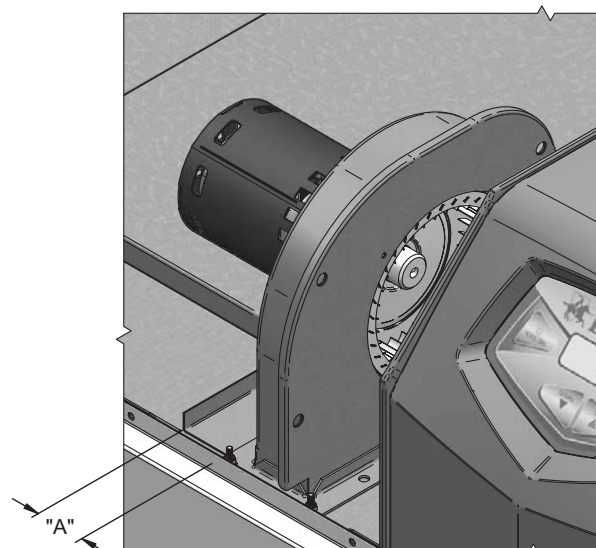

Figure 2-7\_Combustion Air Fan with Air Shutter "A" Dimension
5. Use a ruler to measure the distance from the base of the fan to the end of the air shutter (FIG. 2-7). Compare this distance to the specified "A" dimension for the pool heater in Table 2B.